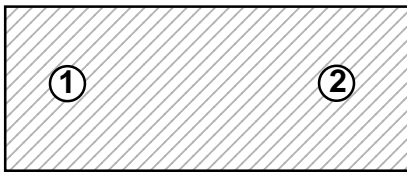

Figure 6. Power Module Mounting Screw Sequence
5. Insert the two M4 mounting screws through the PCB, power substrate and into the heat sink and tighten the screws to 1 Nm torque, according to the sequence shown in Figure 6.